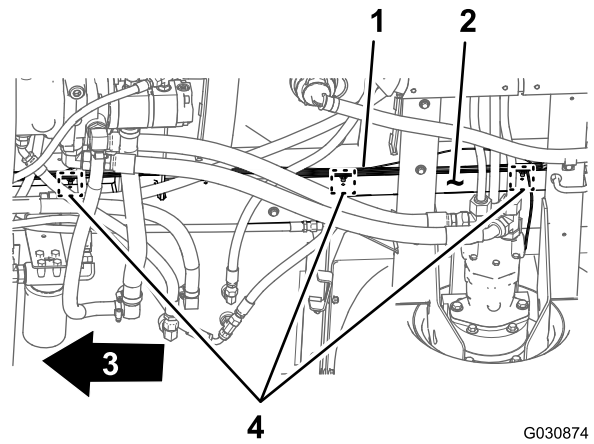

Figure 85
3. Route the 165 cm (65 inch) branch and the 203 cm (80 inch) branch of the electrical harness forward along the right frame tube (Figure 85).
4. Insert the push-in fasteners of the 203 cm (80 inch) branch of the rear wire harness into the holes in the right frame tube (Figure 85) where the push-in fasteners of the old rear harness were removed; refer to step 3 in Disconnecting the Front and Rear Wire Harnesses (page 14).